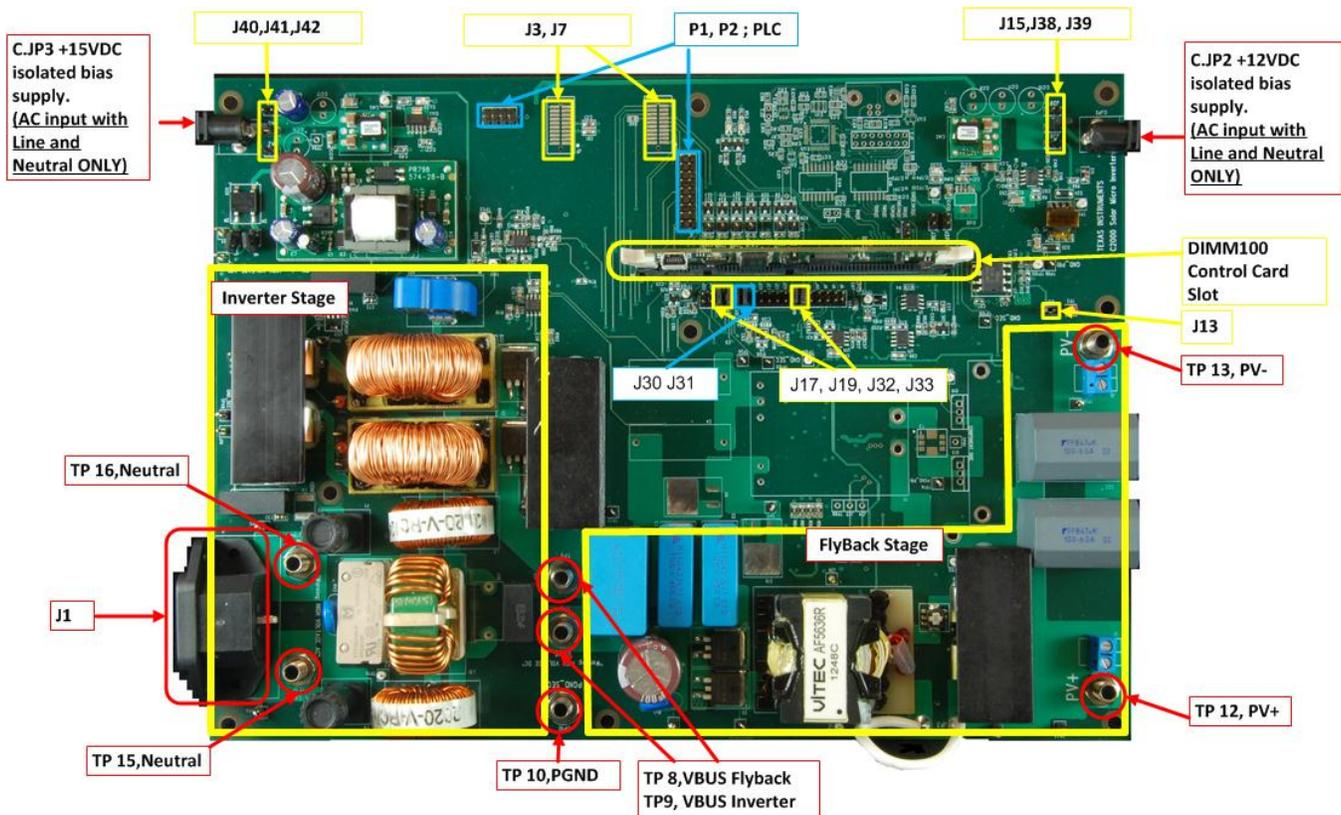

Figure 2. Jumper Positions for C2000 Solar Micro Inverter
1. Inspect and install the jumpers. Before applying any power, ensure that these jumpers are configured properly. Table 1 lists the jumper configuration needed to run the GUI for the Micro Inverter EVM. Figure 2 shows the jumper locations on the PCB.